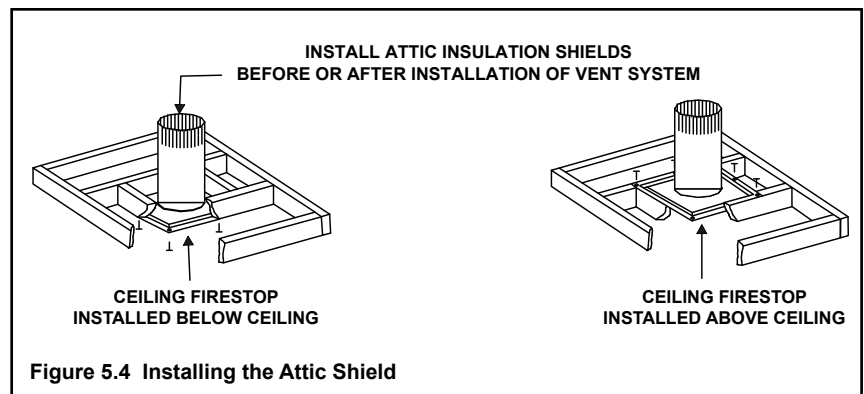

Figure 5.4 Installing the Attic Shield
- The ceiling firestop may be installed above or below the ceiling joists when installed with an attic insulation shield. It must be under joists between floors that are not insulated. Refer to Figure 5.4.